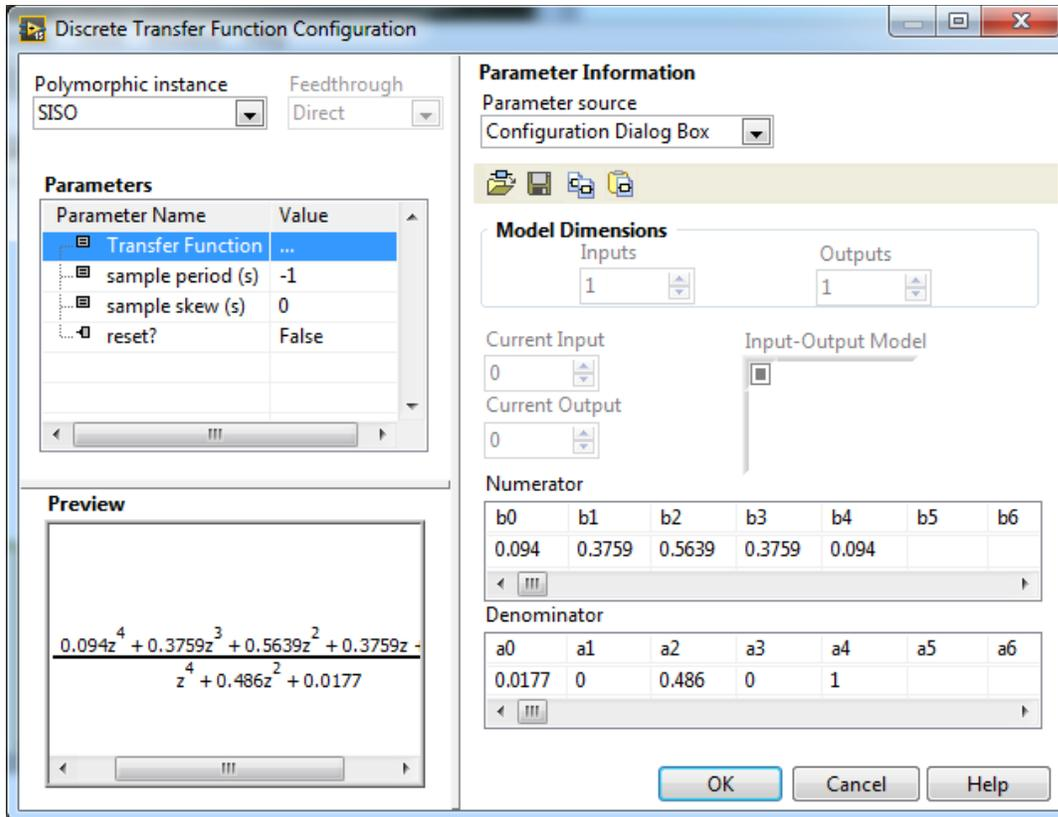

Figure 4 - Discrete Transfer Function Configuration Window
- The **Discrete Transfer Function** can be found in **Control & Simulation** -> **Simulation** -> **Discrete Linear Systems**. Double click on it and set the parameters to match Figure 4. This helps reduce the noise that you will see on the tachometer signal.